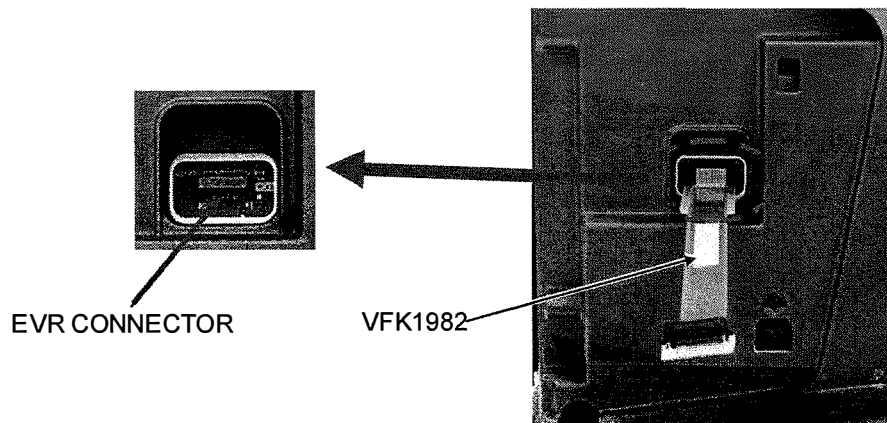

Figure 1-2-3
3. Connect the Extension Cable (VFK1982) to EVR connector in Unit. Then make sure that the direction of the VFK1982 is correct as shown in Figure 1-2-3.